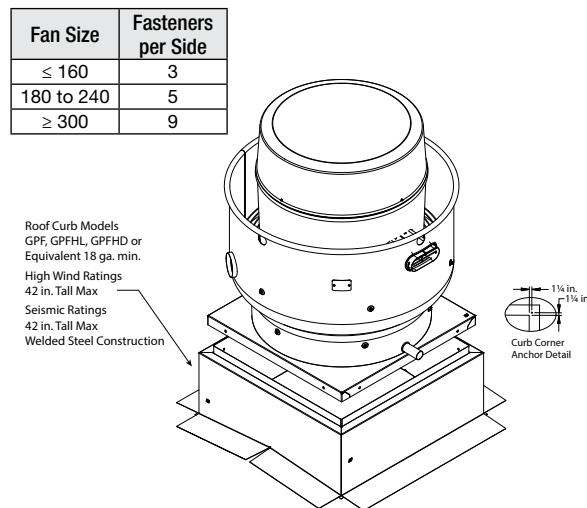

Figure 9 - Fan to Curb Mounting
**Fan to Curb Mounting:** 5/16-inch (7.9 mm) self-drilling fasteners are to be installed on each side of fan with one fastener 4-inches (102 mm) from each edge and one fastener in the center, Figure 9. Fasteners are to be equally spaced.